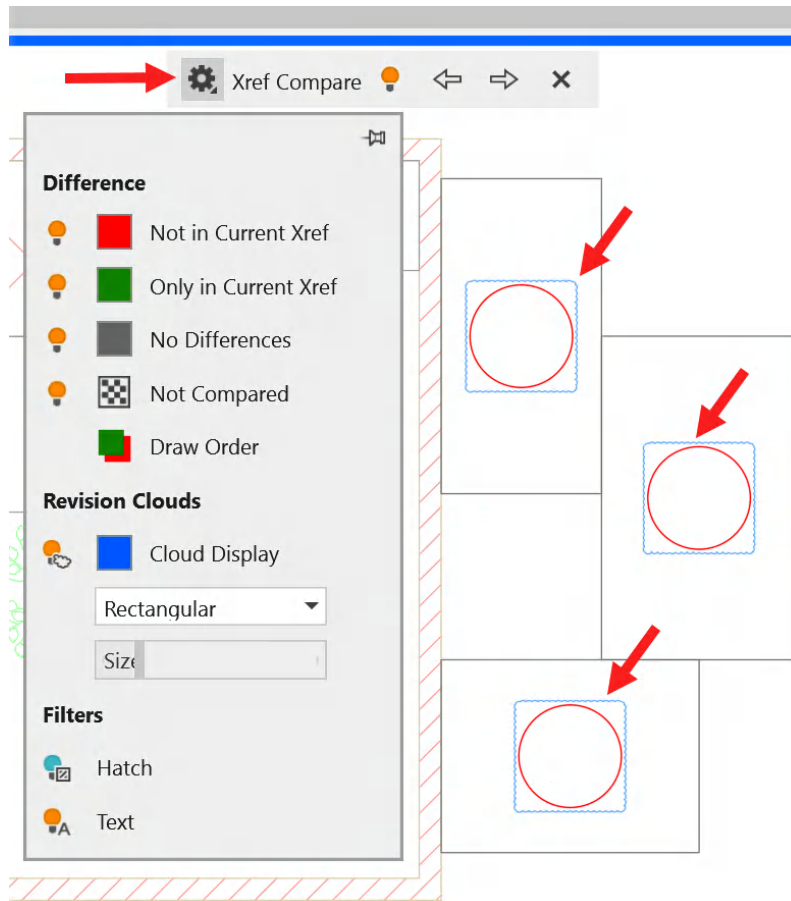

Figure 14.23: Changing the cloud color in the Settings menu
9. Finally, click on the **Settings** icon and change the **Cloud Display** color in the **Revision Clouds** section of the **Settings** menu, as shown in *Figure 14.23*. This makes the clouds easier to see on a white background. If you are using a different background in AutoCAD, use a contrasting color for the clouds. I am using blue in this exercise.